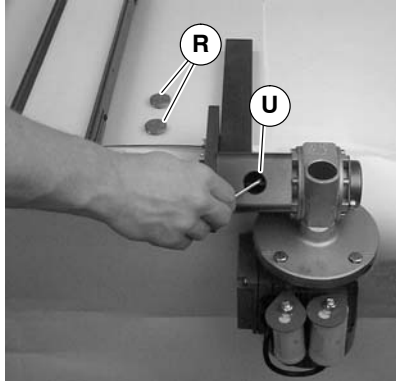

Figure 30
<p>Exposed moving parts can cause severe injury.</p> <p>REPLACE INSPECTION PLUGS (R of Figure 30) BEFORE RUNNING CONVEYOR.</p>
12. Tighten coupling set screws (U of Figure 30). Replace inspection plugs (R).